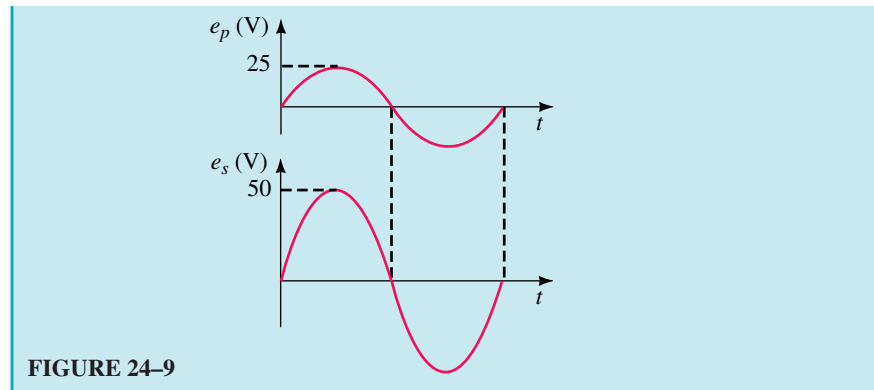

FIGURE 24-9
- Primary and secondary voltages are in phase as noted earlier. Figure 24-9 shows the waveforms.